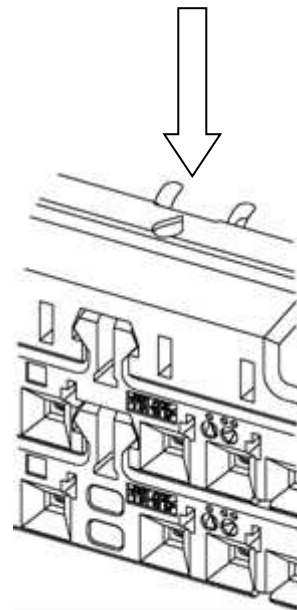

Fig.24
- ② Insert the driver opposite side of ① and lift up the tool. The rest of two latches at opposite side are released.
- ③ Latching at center can be released by inserting the tool from upper side and lift up the toll. (Fig. 24).